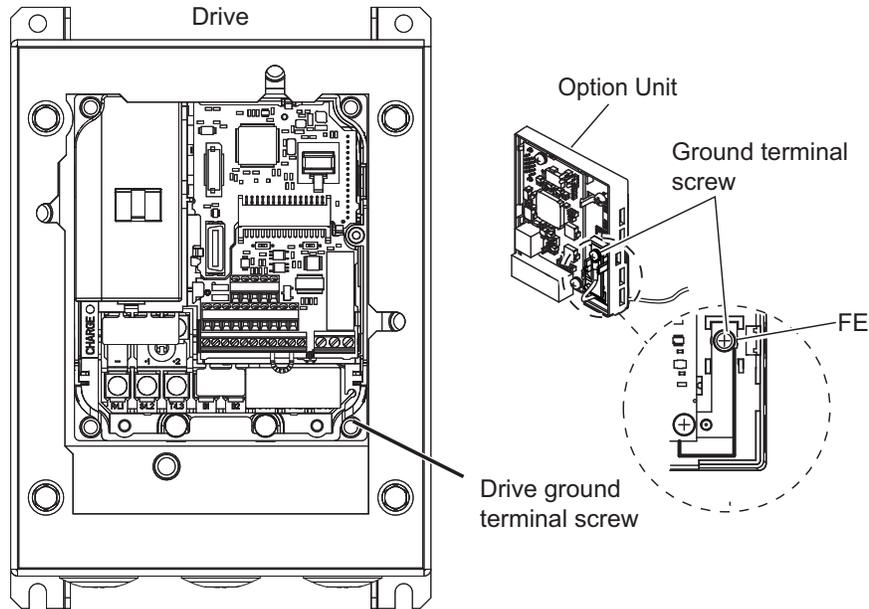

Figure 29 Remove Ground Terminal Screws
5. Remove the lower right drive ground terminal screw that fastens the drive to the case, **Figure 29**. This screw will be used to connect the ground wire from the option unit to the drive.